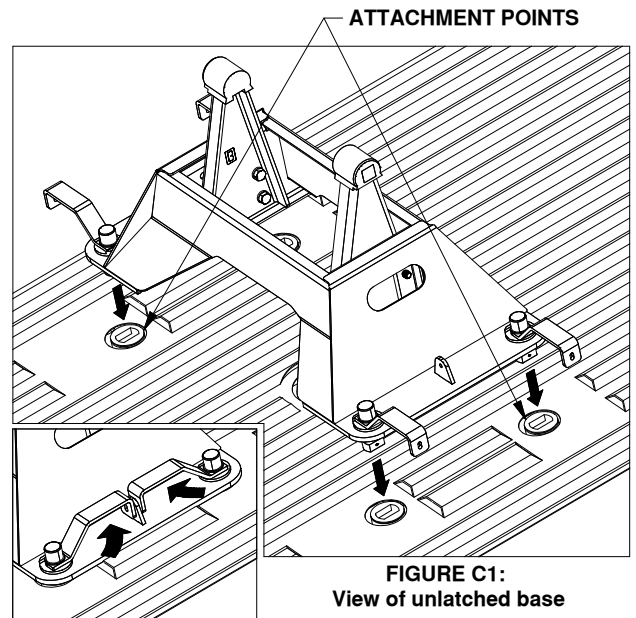

FIGURE C1:
1. The companion base will mount to four attachment points in the truck bed. Remove any debris and/or obstructions from the truck bed, this includes any plastic caps which may be over the attachment points. Remove the latch pins from each side of the base and rotate the handles out, see figure C1. Place the Companion base over the attachment points and carefully lower it until the latch cams pass through the floor and the base rests flat against the top of the attachment points.